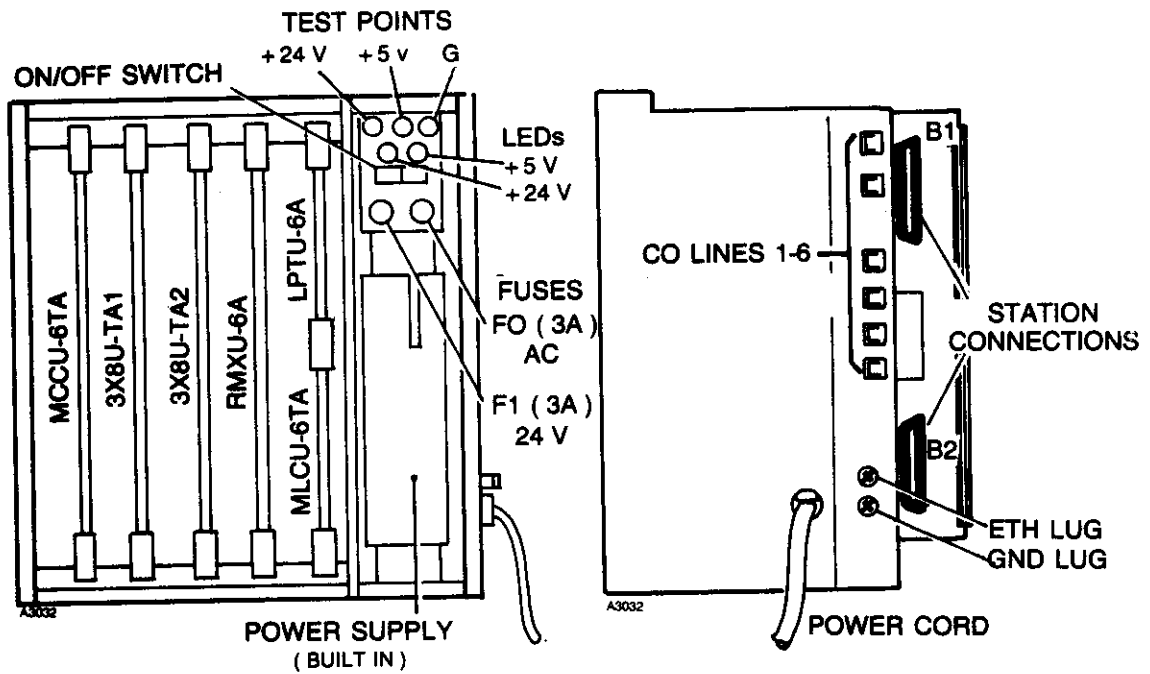

Figure 5-7 KEY SERVICE UNIT/POWER SUPPLY, EK-616, PCB ARRANGEMENT
5.06 PCBs are keyed to fit only their proper slot (Figure 5-7). When inserting PCBs, the connector edge slides in the slot with the component side facing the technician's left.
- 5.18** Insert PCBs in the proper KSU / PSU slot (Figure 5-7).